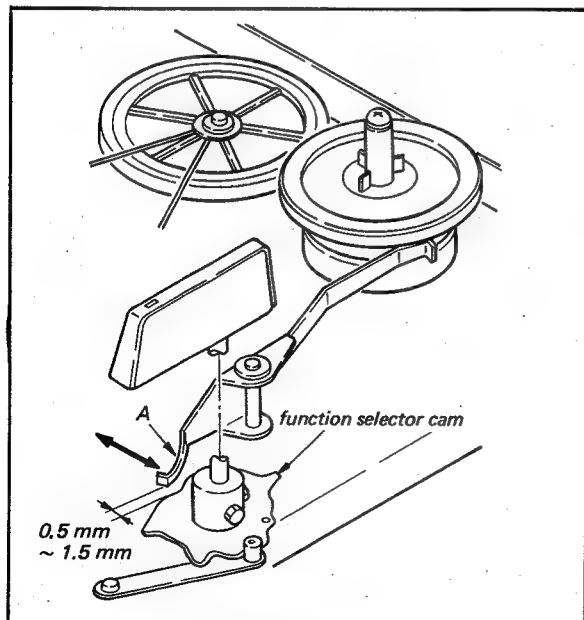

Fig. 4-18. Take-up brake lever check
1. Set the Function Lever to STOP. Check that the top end of the Brake Lever is disengaged from the Function Selector Cam by approximately 0.5 ~ 1.5 mm. Refer to Fig. 4-18.